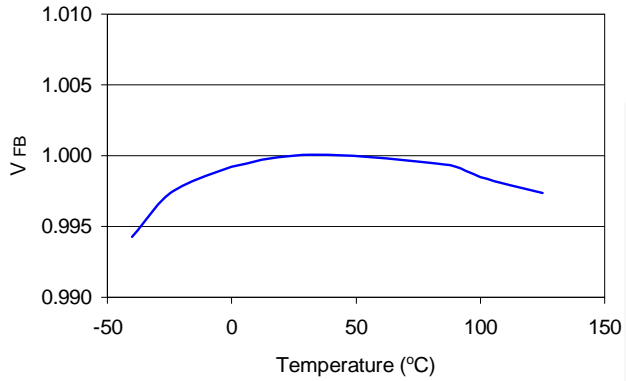

Figure 4. Reference Voltage (V_{FB}) vs. Temperature, Normalized
- See Figure 4 for Temperature Coefficient